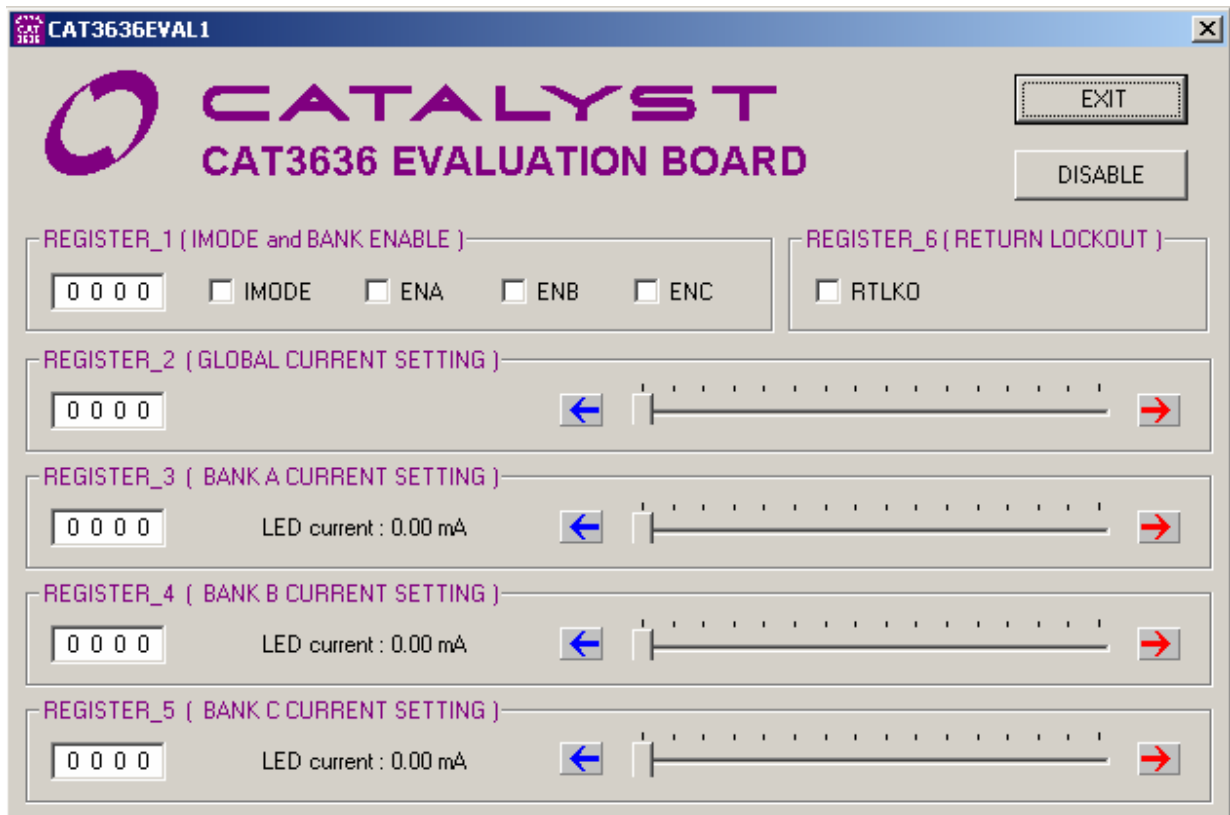

Figure 3. CAT3636 Board Software Interface Window (Start Window)
- d) The CAT3636 Evaluation Board user interface window opens (Figure 3). When the program starts, the CAT3636 will be in the enabled state (EN/SET input is set high). The user may choose to disable the device by pressing the ENABLE/DISABLE button which has a toggle function.